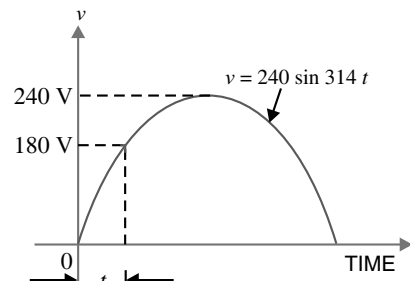

Fig. 18.16
**Solution.** The SCR will remain off till the voltage across it reaches  $180\text{ V}$ . This is shown in Fig. 18.16. Clearly, SCR will remain off for  $t$  second.